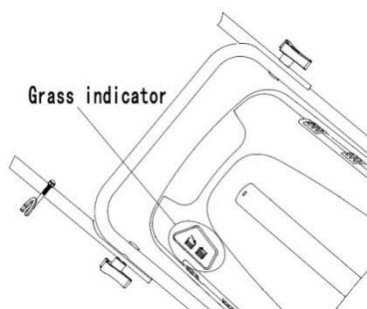

Fig. 14A
- If the catcher is full, the indicator collapses; once this happens, stop moving immediately and empty the catcher, make sure it is clean and ensure its meshwork is ventilated. (Fig. 14A)